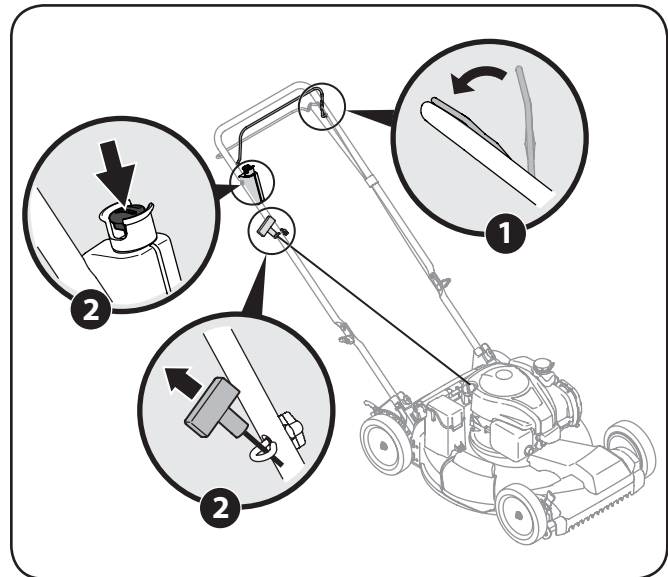

Figure 5-1
1. Standing behind the mower, squeeze the blade control against upper handle. See Figure 5-1.
2. **Recoil Start:** Holding these two handles together firmly, grasp recoil starter handle and pull rope out with a rapid, continuous, full arm stroke. See Figure 5-1. Keeping a firm grip on the starter handle, let the rope rewind slowly. Repeat until engine cranks. Let the rope rewind each time slowly.
Electric Start (If Equipped): Insert plastic push key into starter button until it snaps in. Push the electric starter button to start the engine. See Figure 5-1.